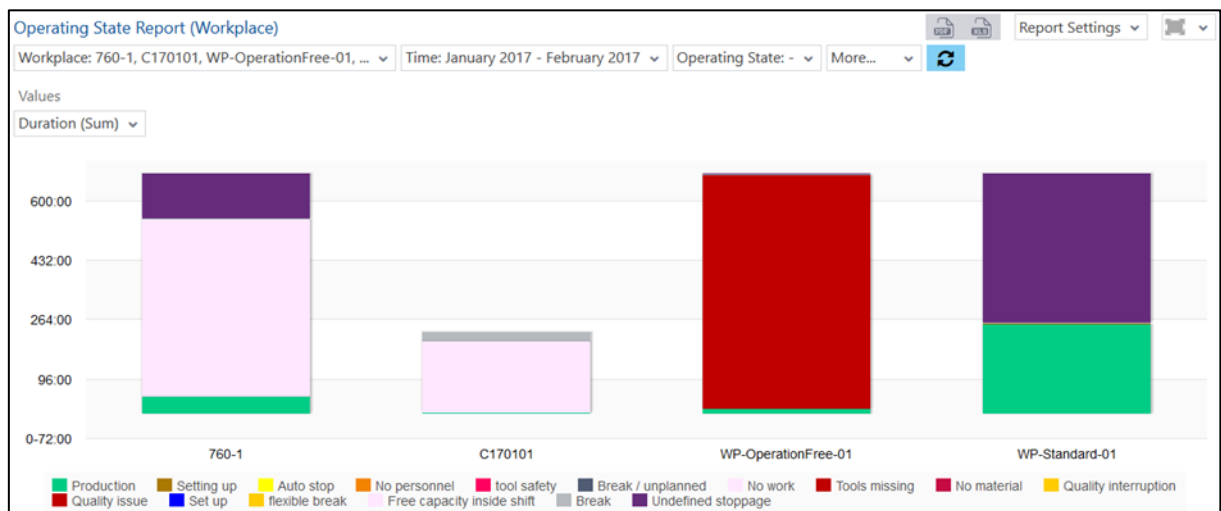

Fig. 59: Operating state report (workplace) as column chart
- Operating state report (workplace) as column chart (fig. 59):